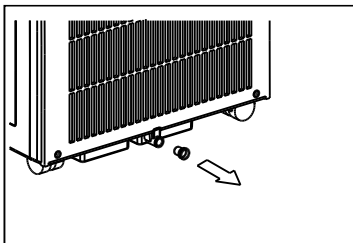

Fig.20
- When the water level of the bottom tray reaches a predetermined level, the unit beeps 8 times, the digital display area shows "P1". At this time the air conditioning/dehumidification process will immediately stop. However, the fan motor will continue to operate (this is normal). Carefully move the unit near a drain location, remove the bottom drain plug and let the water drain away (Fig.20). Restart the machine until the "P1" symbol disappears. If the error repeats, call for service.